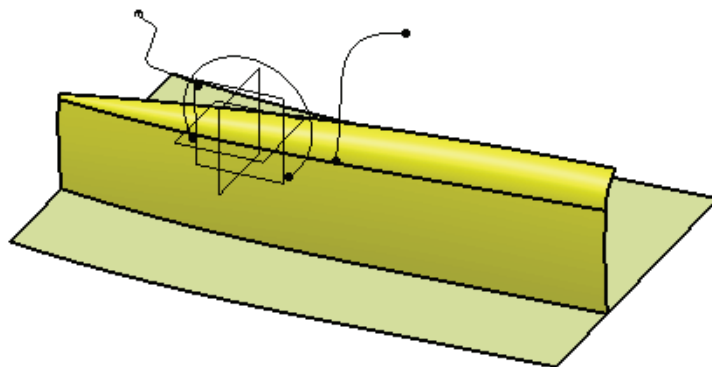

Figure 1–55
1. Open **Front\_Panel\_Start.CATPart**. The model displays as shown in Figure 1–55.